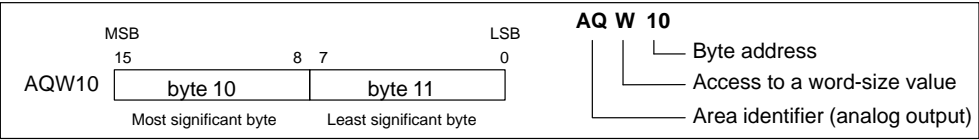

Figure 7-6 Accessing an Analog Output
The S7-200 converts a word-length (16-bit) digital value into a current or voltage, proportional to the digital value (such as for a current or voltage). You write these values by the area identifier (AQ), size of the data (W), and the starting byte address. Since analog outputs are words and always start on even-number bytes (such as 0, 2, or 4), you write them with even-number byte addresses (such as AQW0, AQW2, or AQW4), as shown in Figure 7-6. Your program cannot read the values of the analog outputs.